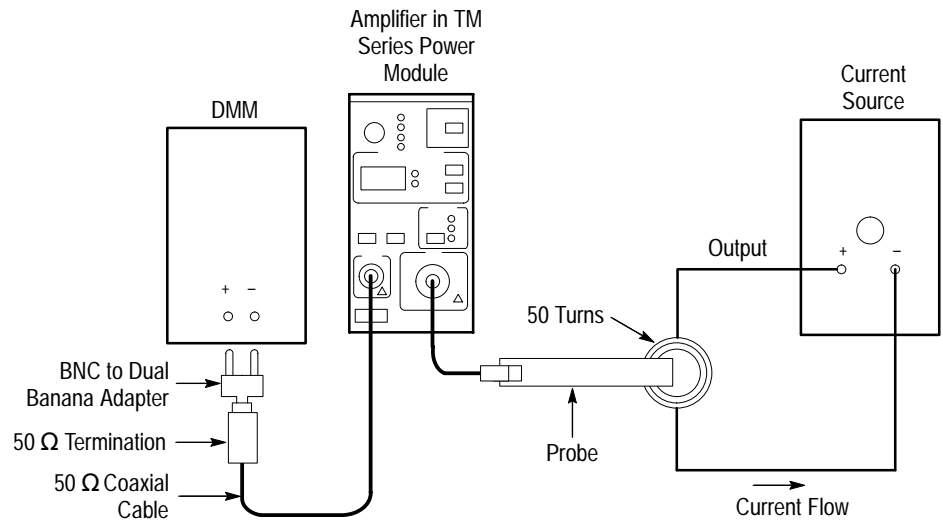

Figure 5-9: DC Gain Accuracy Test Setup for A6303/A6303XL
3. Clamp the current probe around the one conductor of the current loop. (See Figure 5-9 on page 5-33.) Check that the arrow-shaped indicator on the probe points away from the current source.